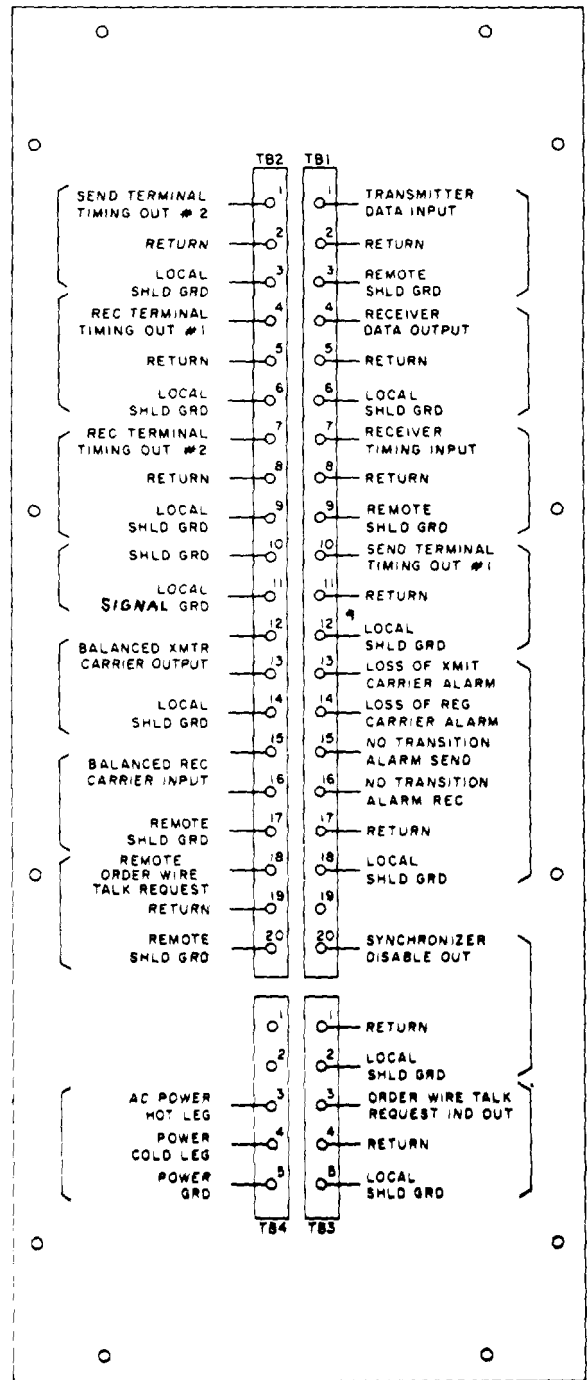

Figure 2-2. Terminal board identification diagram.
b. Single-Channel Terminal Connections (fig. 2-2).
- (1) Connect the 115- or 230-volt ac power to terminals 3,4, and 5 of terminal board TB4.
- (2) Connect the digital input (to be transmitted to terminals 1, 2, and 3 of terminal board TB1).
- (3) Connect the uncorrected timing signal from terminals 1,2,and 3 of terminal board TB2 to the digital data transmit equipment.